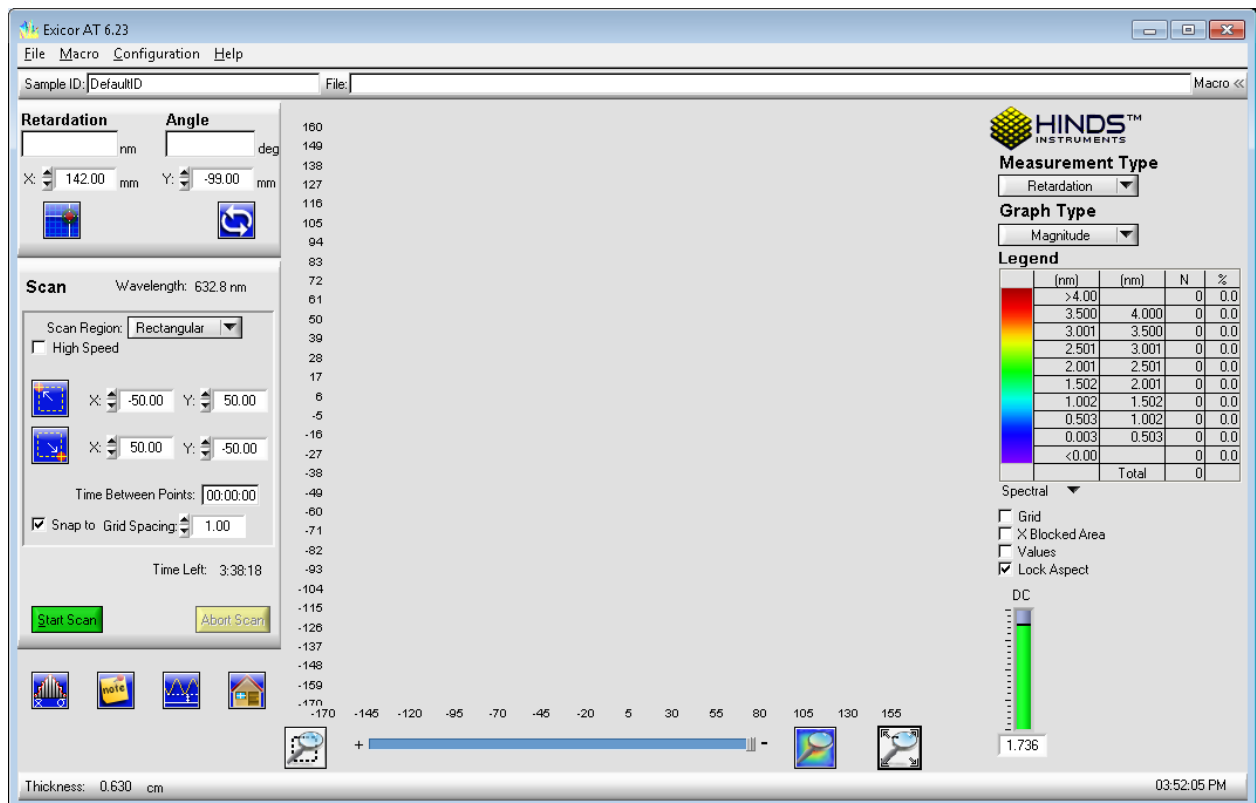

Figure 3.3 Exicor Main Window at Startup
1. After the initialization of the system, the main window appears as shown in Figure 3.3. The main window may show different controls depending on the options purchased with the system.